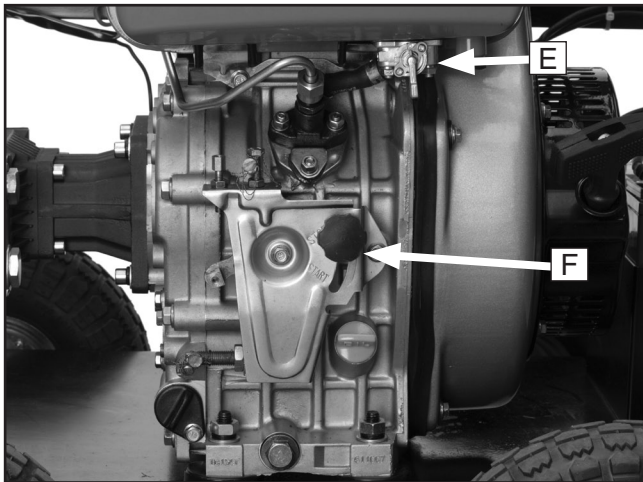

Figure 5. Motor controls.
5. Switch the motor to the **START** position by loosening the speed control lever locking bolt, moving the mechanism downward, and retightening the bolt next to the word "START" (**Figure 5, Page 10**).
3. Switch the motor to the **STOP** position by loosening the speed control lever locking bolt, moving the mechanism upward, and retightening the bolt next to the word "STOP" (**Figure 5**).